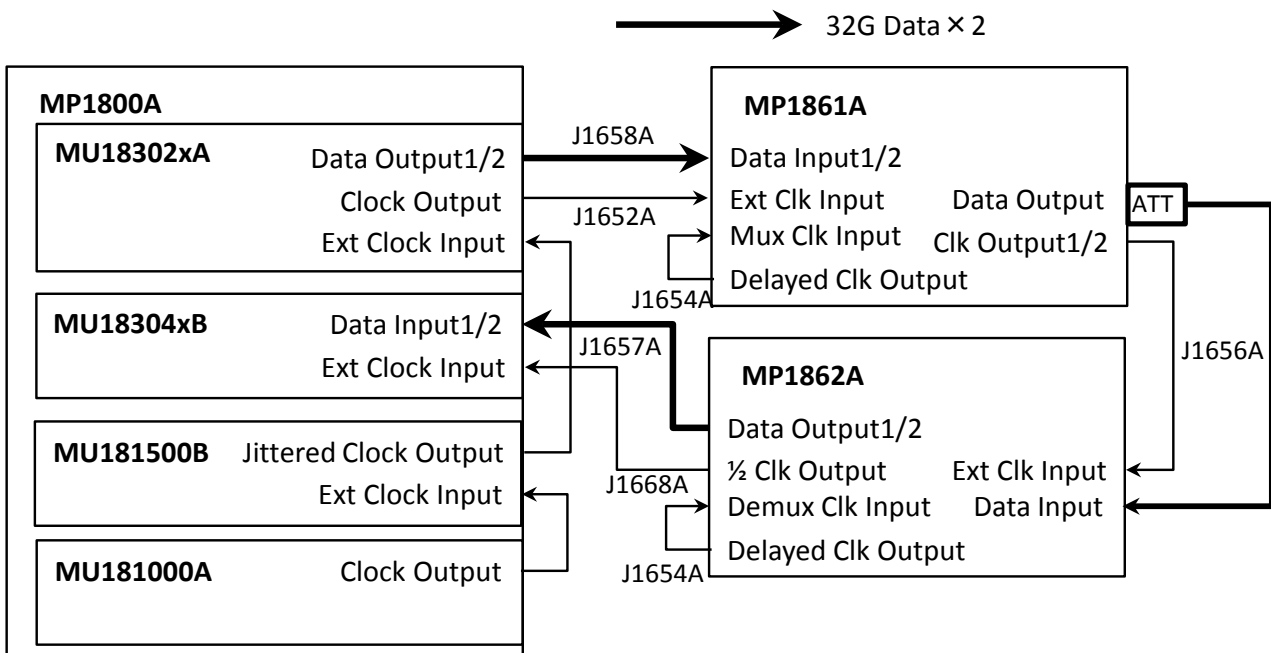

Figure 5.1-1 Equipment Connection for Error-Free Check
5. Connect the equipment as shown in Figure 5.1-1 “Equipment Connection for Error-Free Check”.